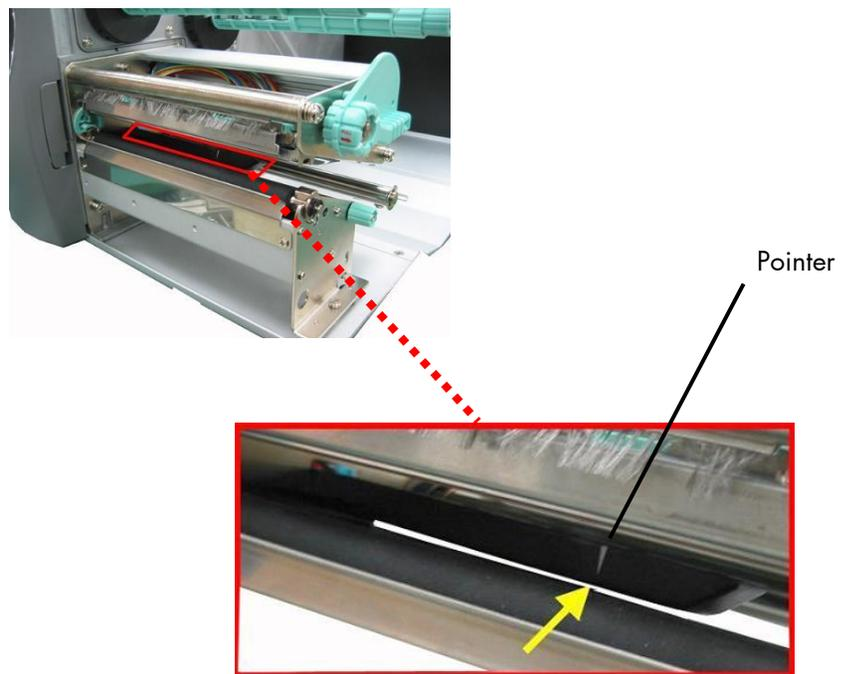

Fig. 5.2.1.l The pointer indicates the sensor position
18. If you want to print using the thermal direct process, now close the pressure lever (Fig. 5.2.1.m).